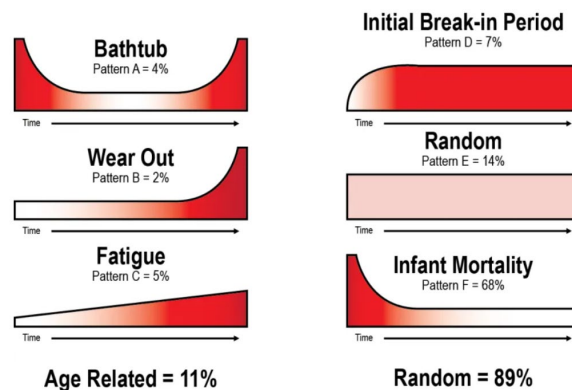

Figure 3 – Graphical Representation of Dominant Failure Patterns
4. Eighty-nine percent of failures are random in nature. This means they can occur anytime; it does not mean they occur without assignable cause. Figure 3 is a graphic representation of the dominant failure patterns identified in the Nowlan and Heap study. As you can see, 89% of failures occur randomly. Therefore, the failure rate and occurrence of these failure modes could not be improved by the imposition of a periodic replacement strategy based on time or throughput.